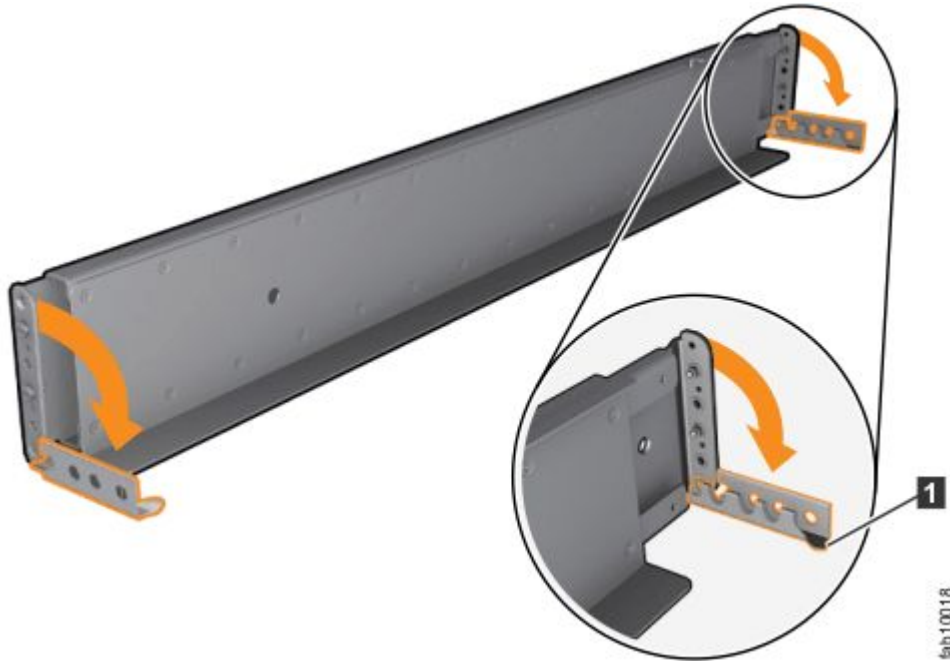

Figure 10. Opening the hinge brackets
Step 5. At each end of the rail, grasp the tab **1** and pull *firmly* to open the hinge bracket. (See Figure 10 “Opening the hinge brackets” on page 14.)